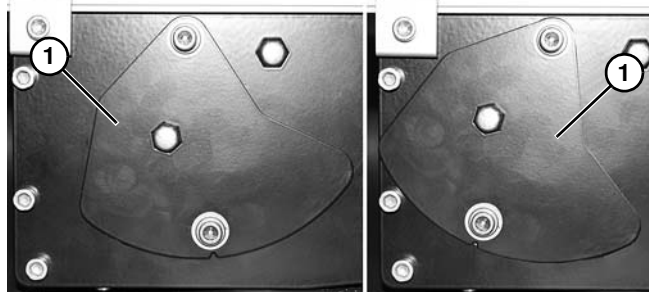

Figure 56
For a new belt, the tension plate (**Figure 56, item 1**) will be in position indicated below left. When the tension plate extends to position indicated below right, the conveyor belt must be replaced.